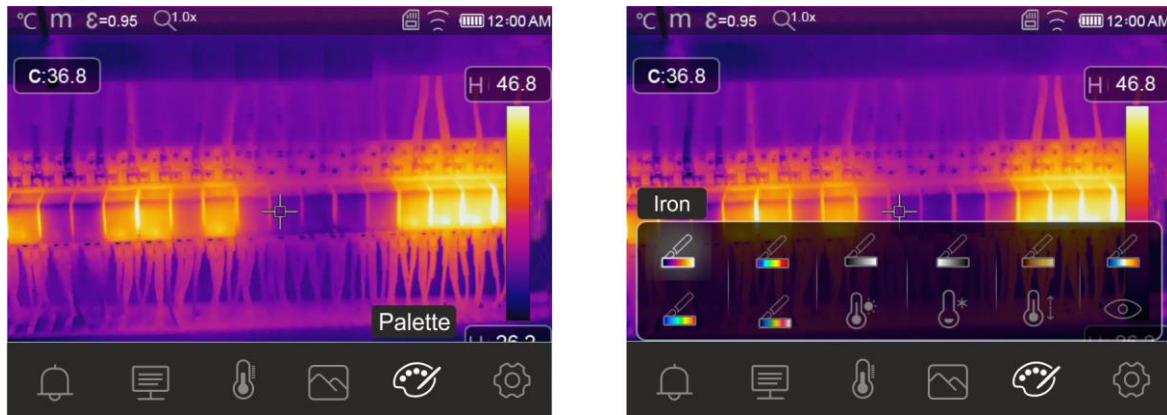

Fig. 40: Selection of colour palettes and isotherm lines' functions
2. Touch the icon “” to enter the “Palette” menu. The screen in Fig. 40 – right side appears on the display.